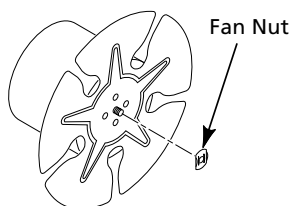

Figure 8 - Removing Fan Nut from Motor Shaft
3. Use pliers to remove the fan nut from front of motor shaft (See Figure 8).